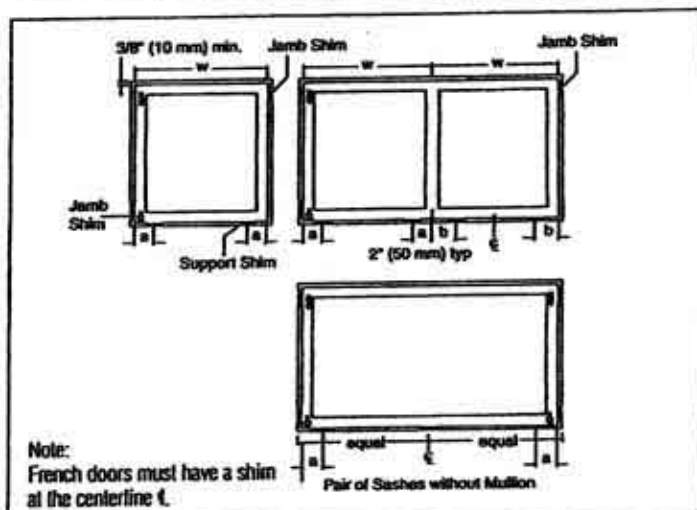

Figure 2-11. Where to put the support shims and jamb shims
- 4.4 Shim sill of frame with 4" x 1 1/2" shims (See Fig. 2-11). Adjust the height of the shims to obtain a level sill, ensuring you have 3/8" gap at the head (inter-storey deflection not to exceed 3/8").